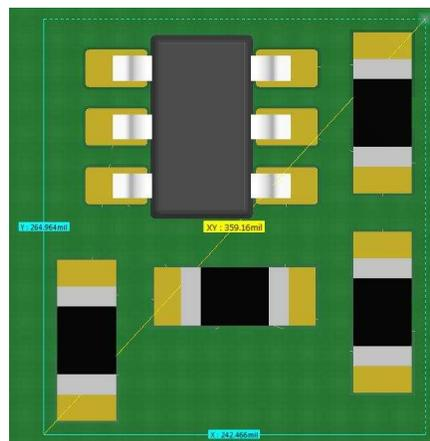

Figure 3. TPS3701 Example Layout
- **TPS3701:** wide Vin voltage detector can monitor voltages up to 36 V and provides 0.25% typical monitoring accuracy. The size of the 6-pin SOT package is 2.9 mm x 1.6 mm and only requires three external resistors to set the fault threshold and at least one external pull-up resistor for the open-drain output as shown in Figure 3. The TPS3701 provides both undervoltage and overvoltage monitoring in a convenient single device solution.